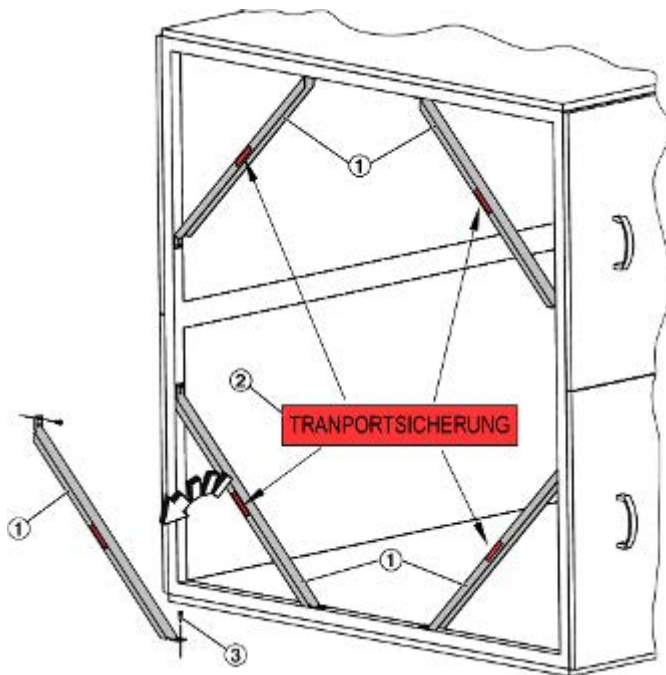

Fig. 10: Cross bars
- 1 ▶ Remove the cross bars (Fig. 10 /1) that are marked with a red sticker (Fig. 10 /2).
- 2 ▶ Then close the drilled holes in the frame with screws (Fig. 10 /3).